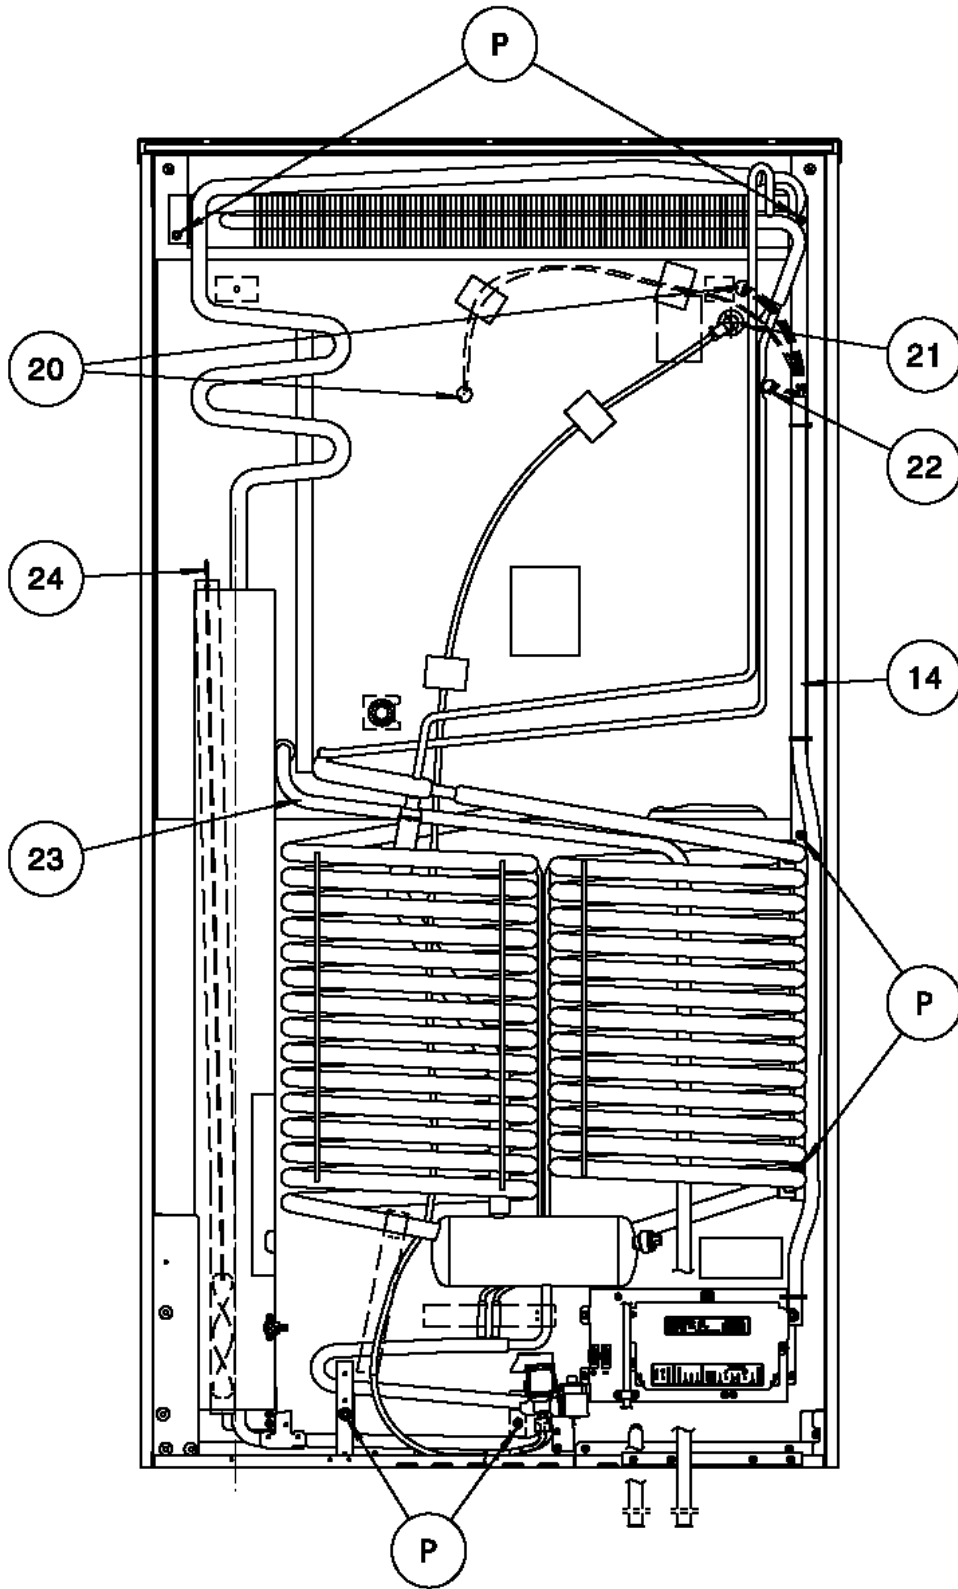
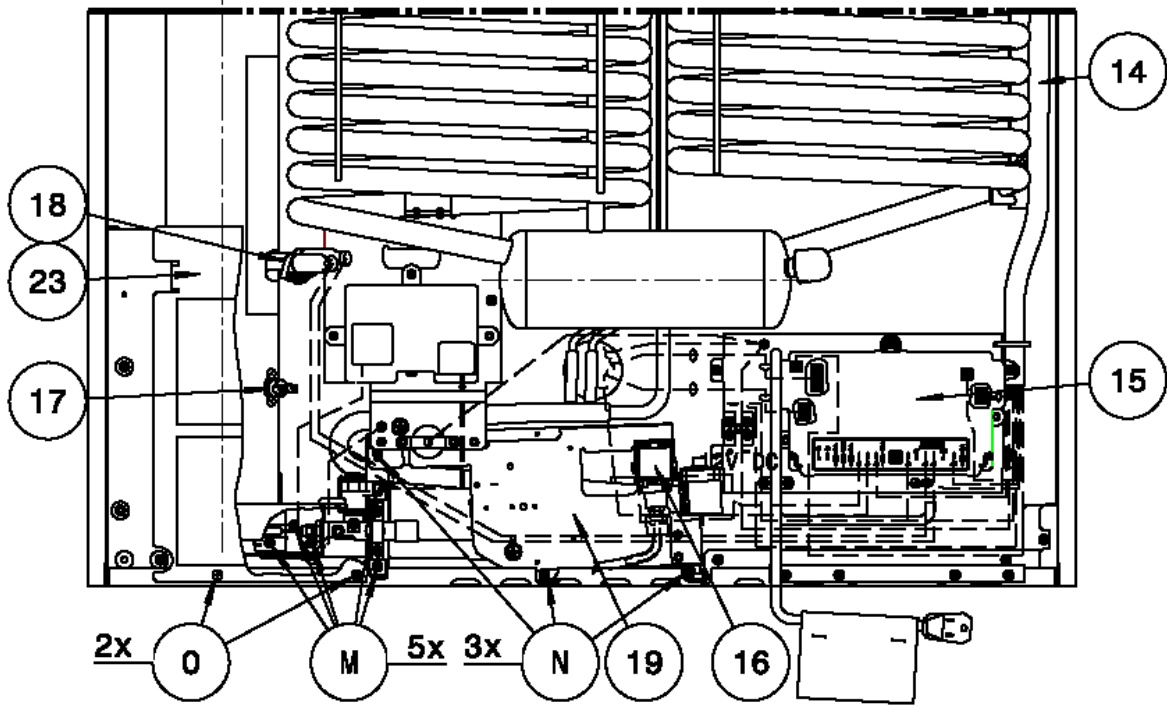

FIG. 3
FIG. 7
19. Remove the wrap (14, Fig. 3) from the wire harness and find the four cables connected to the icemaker connector (22, Fig. 3). Disconnect all these cables from the power module (15, Fig. 7) and the water valve (16, Fig. 7).
21. Remove all other wiring inside the refrigerator (20, Fig. 3) and the ice maker water tube (21, Fig. 3). Pull them out from the back of the refrigerator
23. Remove the protection plate by removing 2 screws (O, Fig. 7)
24. Remove the burner by removing 5 screws and removing 3 connectors (M, Fig. 7).
25. Remove the cables from the thermo fuse (17, Fig. 7) and remove the heaters by disconnecting two connectors on the power module (18, Fig. 7) and the flue baffle (24, Fig. 3).
26. Remove the steel plate (19, Fig. 7) by removing 3 screws (N, Fig. 7). Disconnect all remaining cables, the ground cable at the burner, the ground cable for the bimetal fuse, and the two remaining connections on the power module.
27. Remove drain hose (23, Fig. 3) and make sure that all cables are free from the cooling unit.
28. Remove 6 screws (P, Fig. 3) holding the cooling unit.